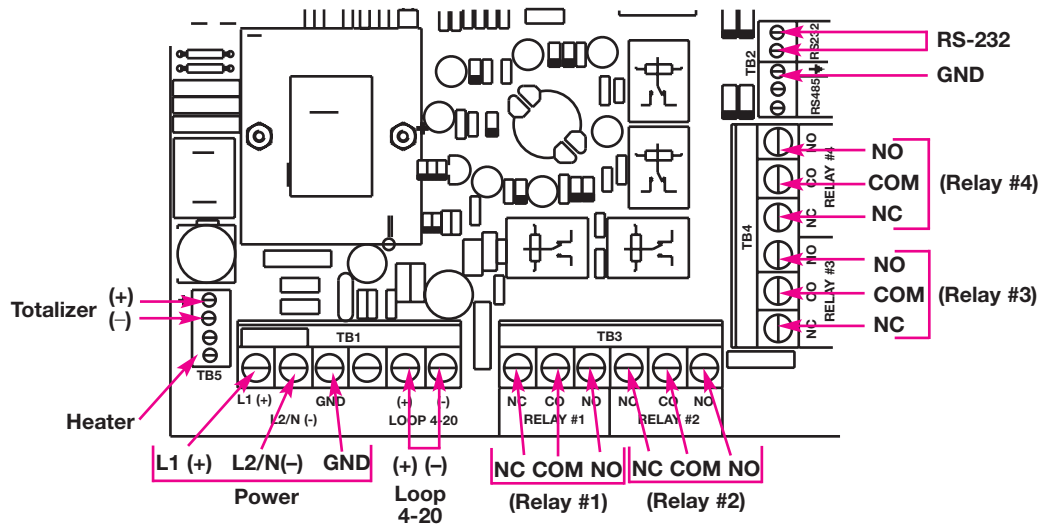

Figure 12
2. The PC board is marked for 120/240 VAC (L1, L2/N, GND) and 24 VDC (+,-) power connections. Ensure proper connections are made on the six position terminal block TB1. Refer to Figure 12. Spade lugs should be used. For optimum operator safety, observe the wiring colors listed in Table 1.
Relay connections are supplied on the motherboard as shown in Figure 12 and 14.